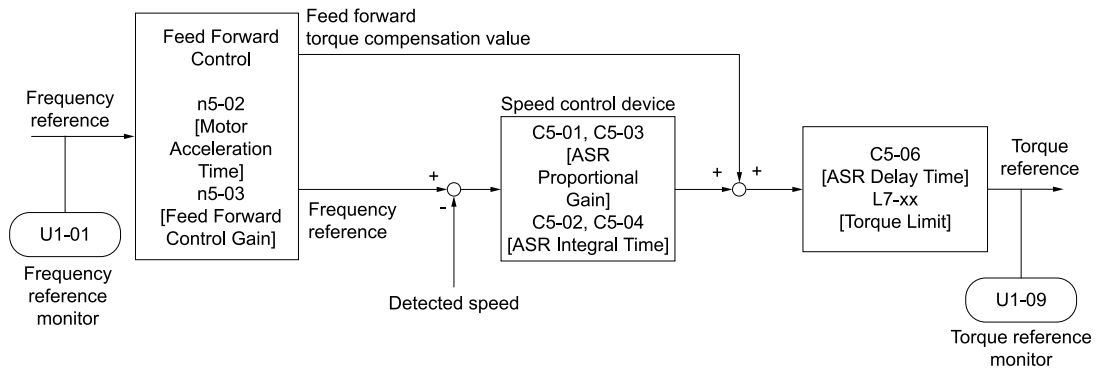

Figure 12.133 Configure Feed Forward Control
Increase the values set in *C5-01* and *C5-03* [ASR Proportional Gain] to apply feed forward control to machines that have low rigidity and are possible to have hunting and vibration or to machines that have a large quantity of inertia. Refer to Figure 12.133 for more information about parameters related to feed forward control.
- If you cannot do Inertia Tuning, refer to Figure 12.133 and set the parameters related to feed forward control individually.